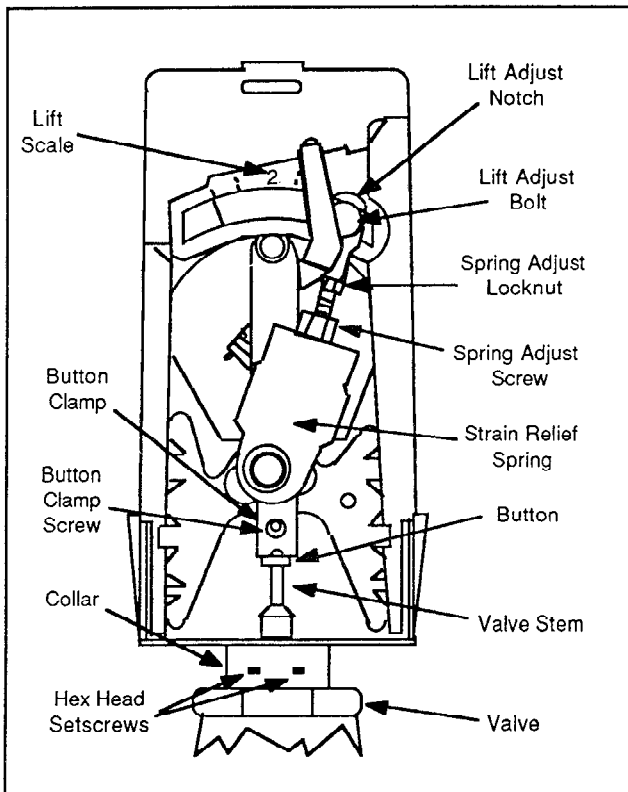

Figure 16. Item Identification
On spring return motors, with shaft in full unpowered position, turn spring adjust screw down (CW) until top of washer is even with pointer. With 3-Way Valve check for tight close-off at powered end of travel (See Figures 16 & 17).
On non-spring return motors, with shaft in full CCW position, turn spring adjust screw down (CW) until top of washer is even with pointer. With 3-Way Valve check for tight close-off at CW end of travel (See Figures 16 & 17).